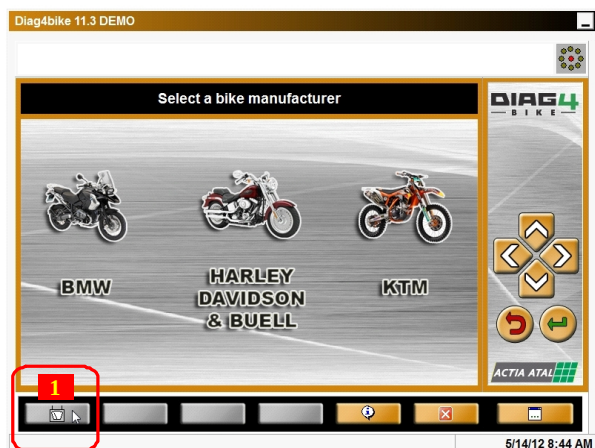
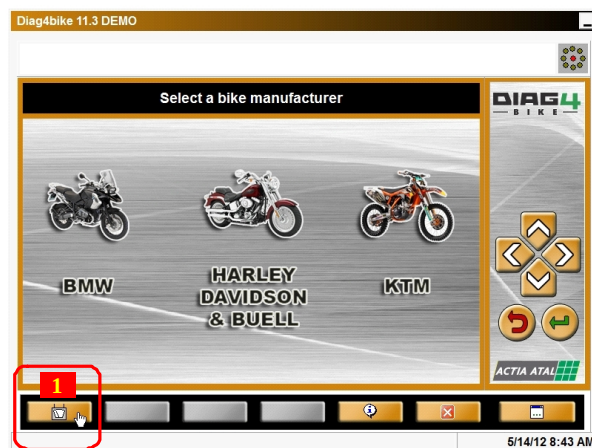
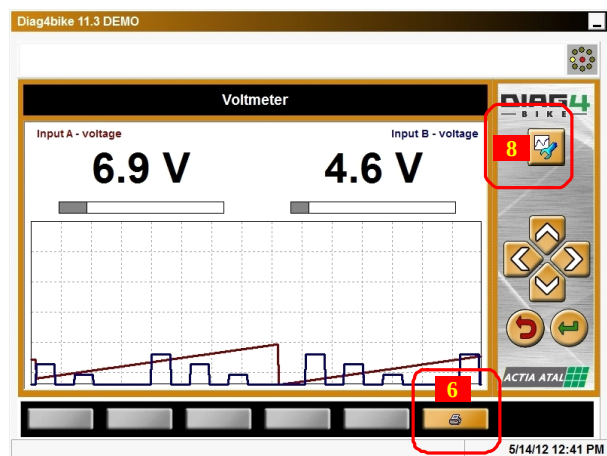

Fig. 40 – Indication of **unavailability** of analog measuring
Fig. 41 – Indication of **availability** of analog measuring
Fig. 46 – Example of measuring with voltmeter in two channels.
After the DIAG4BIKE® program is started, it is immediately seen in the button at pos 1, Fig. 40, if the analog measuring function is available or not.
If the function is not enabled, the button at pos. 1, Fig. 40 will be displayed in grey (inactive). If the function is enabled, the button at pos. 1, Fig. 41 will be displayed in full colour (active).
The setting result is indicated through the button at pos. 1 Fig. 40 or Fig. 41.
When the analog measuring is enabled (see Chapter 9.5.2/A), then after clicking the button at pos. 1, Fig. 41 the measuring itself is started (see Fig. 46). In this case the voltmeter measures voltages in two channels (A, B) against the ground.
The voltmeter can be used also for measurements with a running engine. Prerequisites for use are a connection of the voltmeter module to the VCI communication interface, and switching on the analog measuring (see Chapter 9.5.2/A). When connection to the motorcycle is created, diagnostics is started, and communication is established, the Voltmeter function can be selected (see Fig. 48 and Fig. 46).